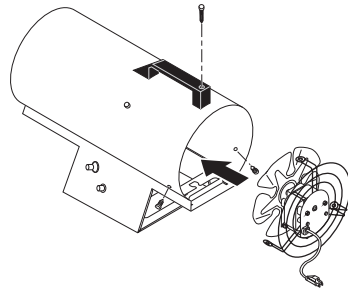

Figure 12 - Replacing Motor and Fan Guard into Heater
11. Place new motor and fan guard into rear of heater shell. Make sure power cord is properly located (see Figure 12).
8. Place motor and fan guard into rear of heater shell. Make sure power cord is properly located (see Figure 12).